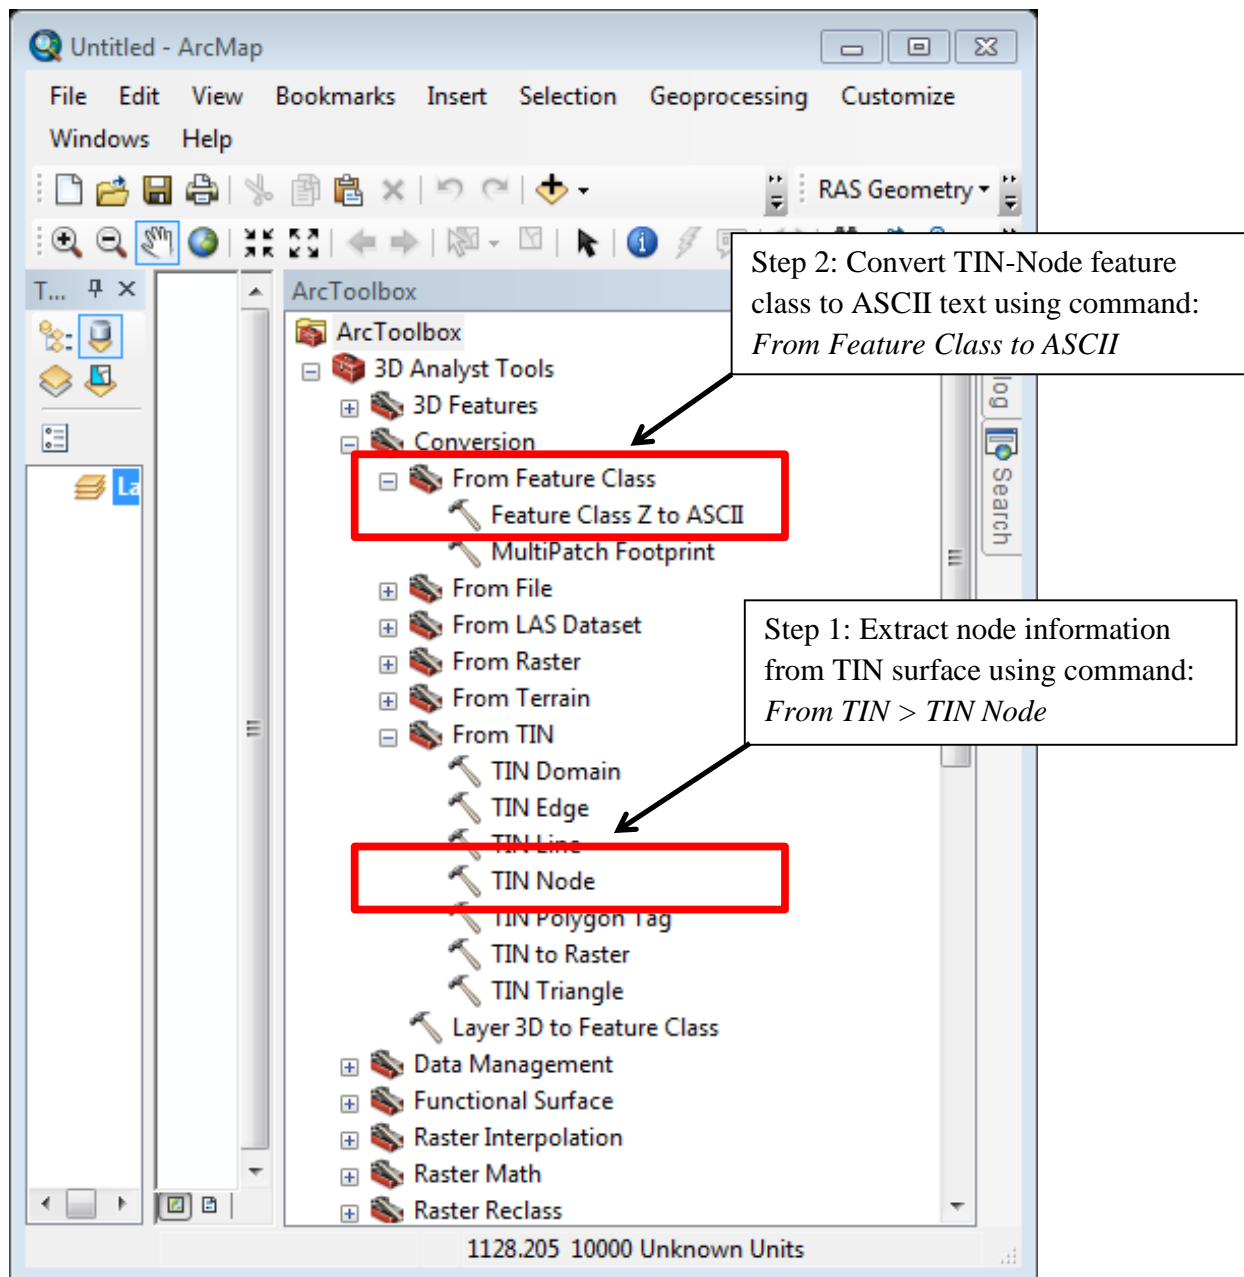
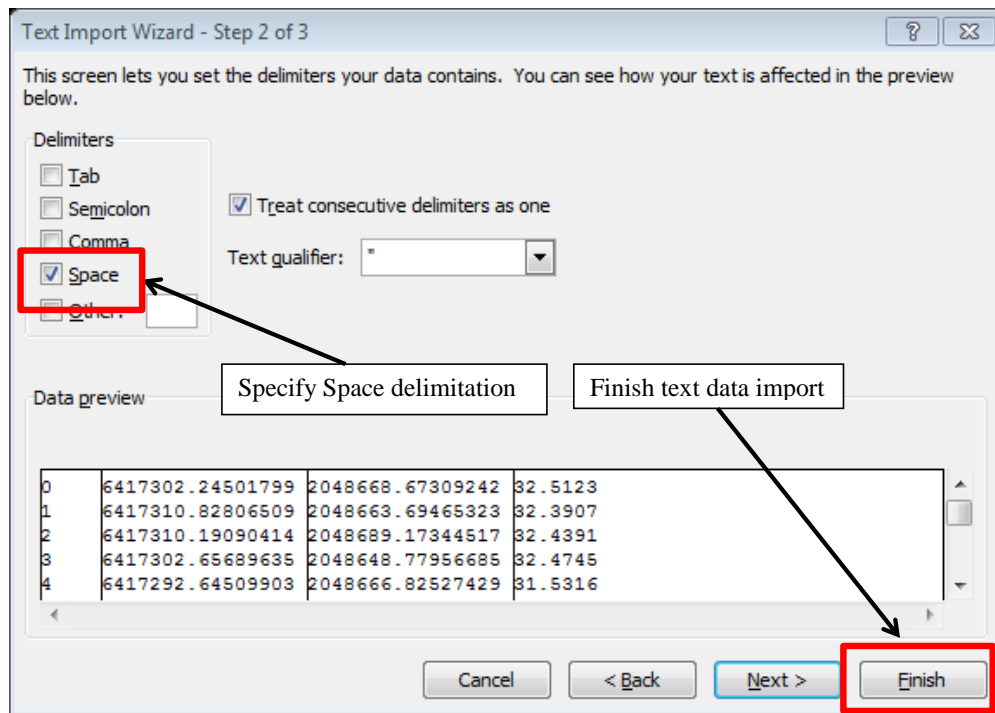
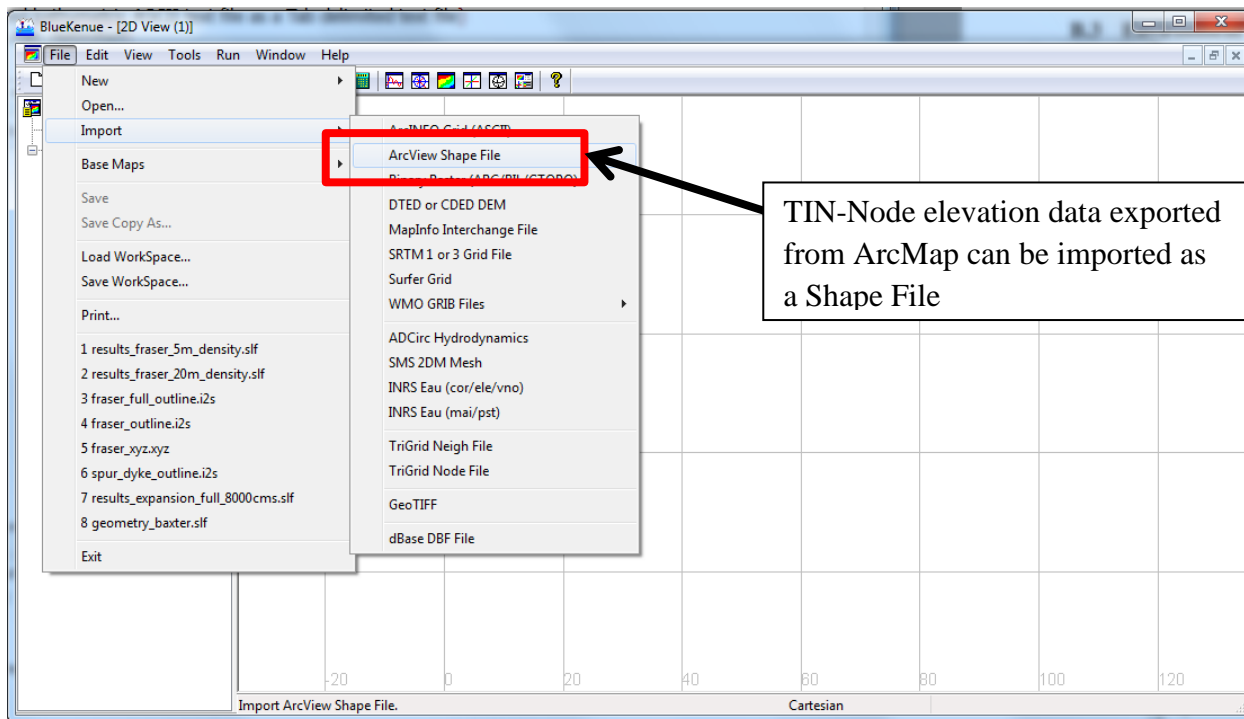

Figure 4: Extract and export ASCII *xyz* bathymetric data utilizing the **3D Analyst Tools** toolbox
Figure 7: Open the Baxter River ASCII text file using Excel, importing as a space delimited file
Figure 15: BlueKenue is capable of importing ArcMap/ArcView Shape Files directly
1. Extract TIN-Nodes using 3D-Analyst Toolbox command (Figure 4):
2. Convert TIN-Node feature class to ASCII text via Toolbox command (Figure 4):
Steps 1 and 2 are illustrated in Figures 4 through 6, and Step 3 details are illustrated in Figures 7 through 11
If the raw *xyz* values are not required, then you can simply perform Step 1 of the process described in Section 2.1 (i.e. Figure 4), save the newly created Shape File (.shp), and import the Tin-Node file directly into BlueKenue. To import an ArcMap Shape File to BlueKenue, use the *File ¿ Import ¿ ArcView Shape File* command as depicted in Figure 15.